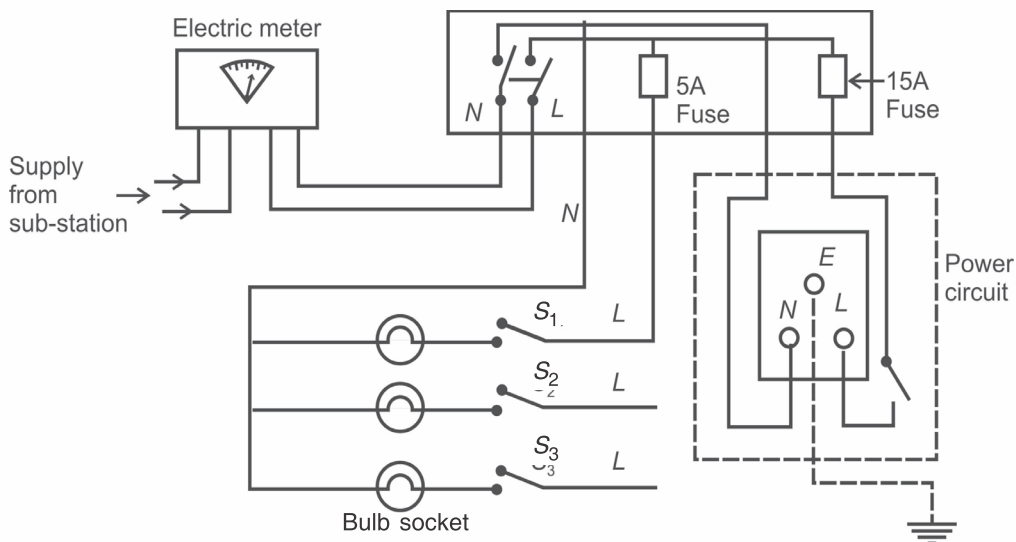

Fig. 9.1: A typical laboratory wiring system.
You will also recall from Unit 6 of CLT-104 that **household electrical wiring comprises a number of parallel circuits**. A typical electrical wiring system is shown in Fig. 9.1. The parallel circuits in the wiring system imply that all live wires should be connected at one point. Also, separate electrical circuits are used for lighting and power.
Some of the salient features of a laboratory wiring system (Fig. 9.1) are:
1. The switches such as S_1 , S_2 , etc. are always connected in the live (L) wire of the circuit so that when a switch is in off position, the corresponding socket (or the bulb holder) is not live. However, if the switch is connected in the neutral (N) wire, the socket is live even when the switch is in off position (see the margin remark). In such a condition, a person touching the socket or the bulb holder accidentally would get an electric shock. **For this reason, you should fix switches in the extension board along the live wire.**
3. Although neutral wire of the circuit is earthed at the electric substation, for extra safety, **the power circuit (Fig. 9.1) contains an additional earth wire, E** . You will learn the rationale for the additional earth wire in power circuit of the laboratory wiring in the next sub-section.